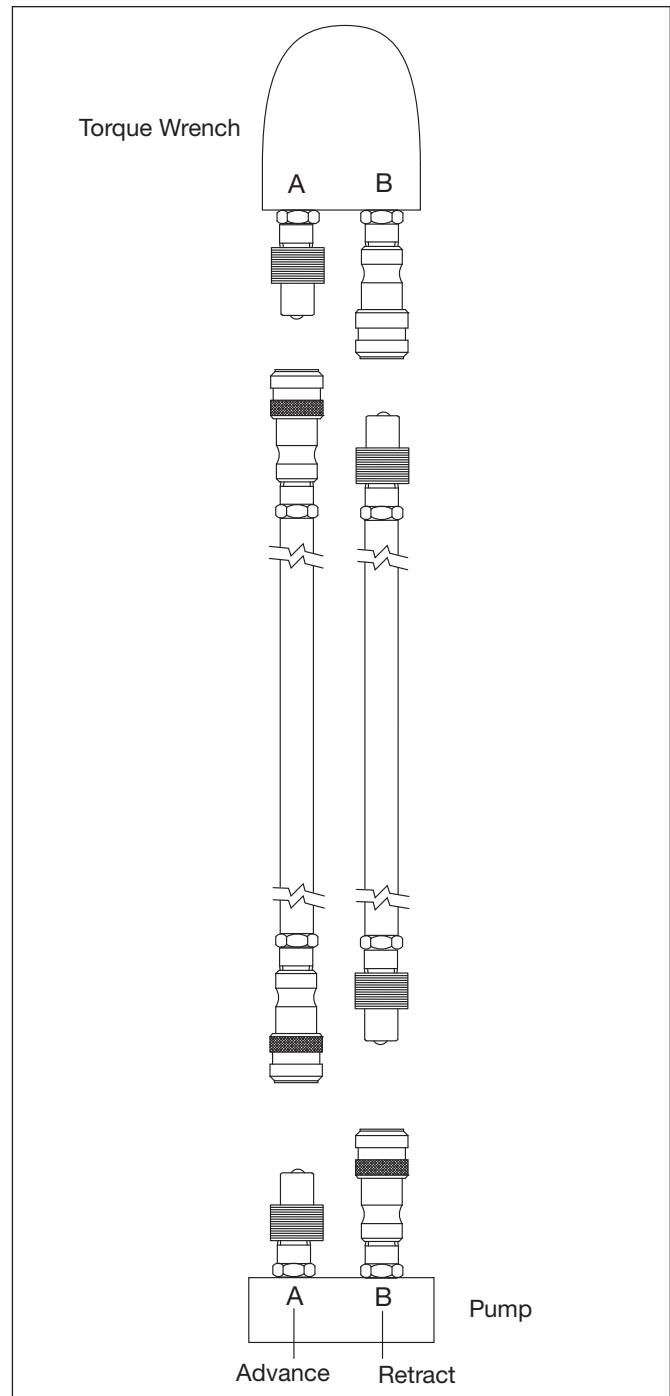

Figure 4: Connections to Torque Wrench
2. Couple hoses to torque wrench as shown in Figure 4. Hand tighten coupler lock rings. When using the Enerpac pump and torque wrench combination, hoses and couplers are designed so that the pump advance port can only be connected to the wrench advance port, and the pump retract port can only be connected to the wrench retract port.